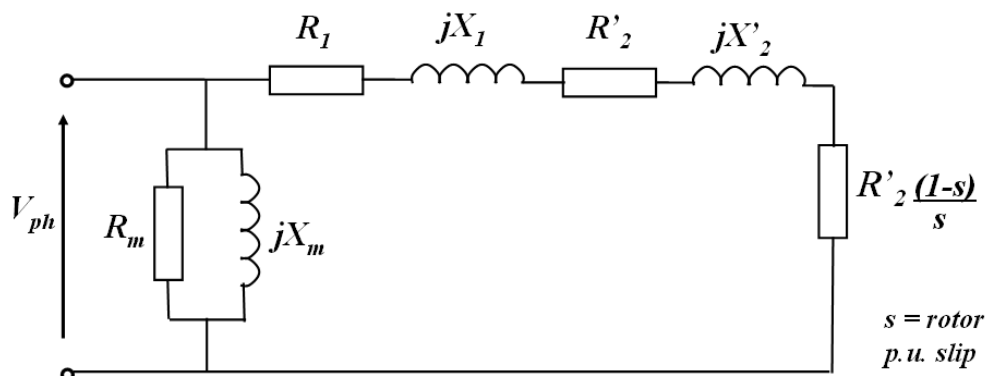

Figure 1.1
- a. Sketch a typical torque-speed characteristic for an induction machine identifying both motoring and generating regions, the synchronous speed and any critical operating points from a generator perspective. (3)
- b. A chemical processing company has a base load demand of 15MVA at 0.7 power-factor lagging which it draws from an 11kV, 50Hz, infinite busbar supply. To reduce its carbon footprint, the company decides to use waste steam from one of the production processes to operate a steam turbine which drives a 6-pole, 3-phase, star-connected induction generator. The induction generator can be modelled using a simplified, per phase equivalent circuit, as shown in Figure 1.1. The equivalent circuit parameters of the machine are given in Table 1.1